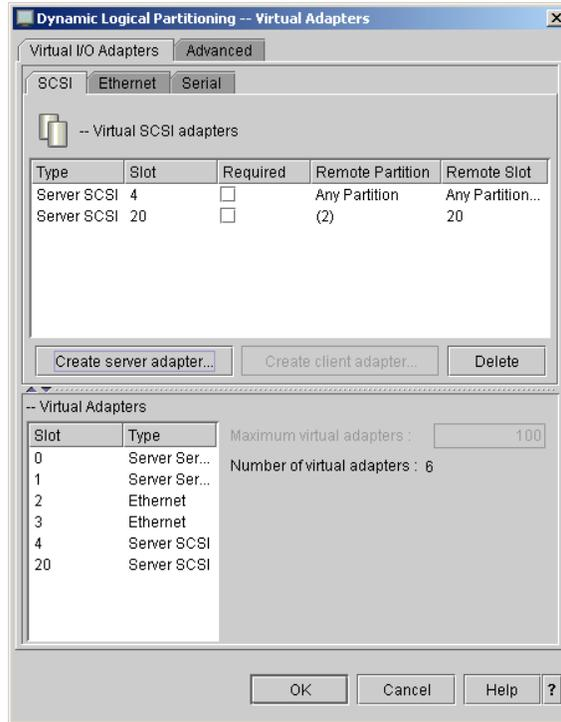

Figure 3-35 Dynamic Logical Partitioning
5. You will see the server adapter in the list with the correct slot client/server slot numbers. Click **OK** to perform the dynamic LPAR operation (Figure 3-35).